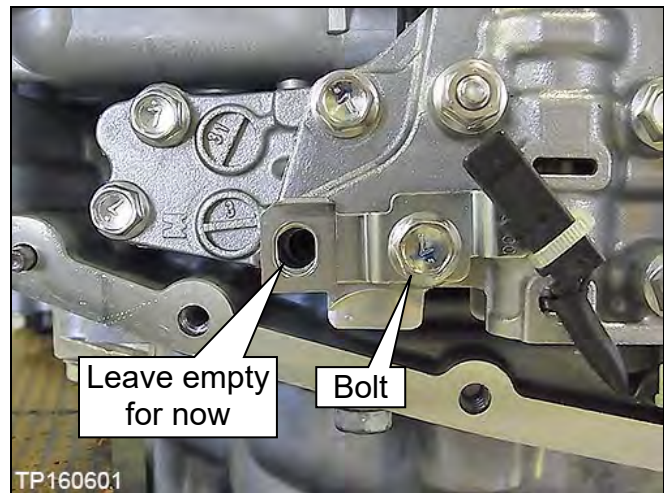

Figure 96
5. Install the CVT fluid temperature sensor bracket to the valve body with one (1) 54 mm (2.125 inches) bolt. See Figure 96.
**NOTE:** Leave the one (1) bolt hole empty as it will be used to secure the oil strainer during the next step (see Figure 96).